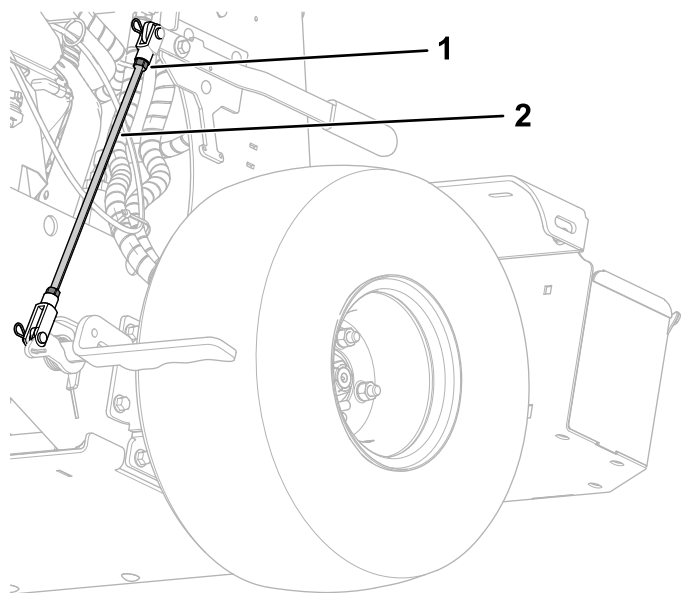

Figure 89
4. Loosen the 2 jam nuts on the brake linkage located at the left, rear side of the machine (Figure 89).
5. To increase the brake force, turn the linkage counterclockwise 1 to 2 turns (Figure 89).
7. Tighten the 2 jam nuts (Figure 89).